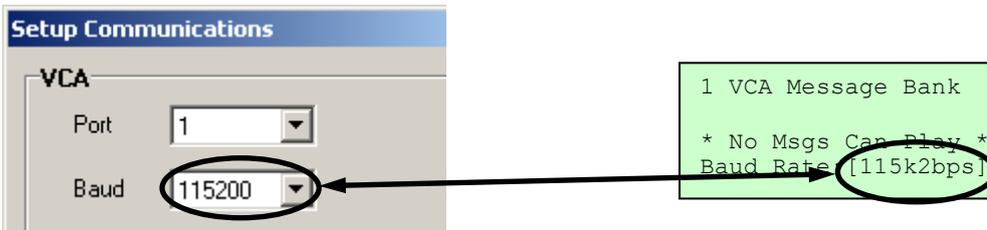

Figure 41 - Setting the Baud Rate
8. Check that the **Baud** rate communication setting in the Setup Communications window is set to the same rate as the VCA, as shown in Figure 41. The VCA's serial baud rate is displayed on the VCA Message Bank page. By default this should be set to 115.2kbps, the maximum baud rate supported by most PC serial ports. The baud rate can also be set to 57.6k and 28.8k. Some PCs may be equipped with a high-speed serial port that supports a baud rate of 230.4kbps. Both the VCA Message Bank Editor and the VCA can be set to this higher baud rate.